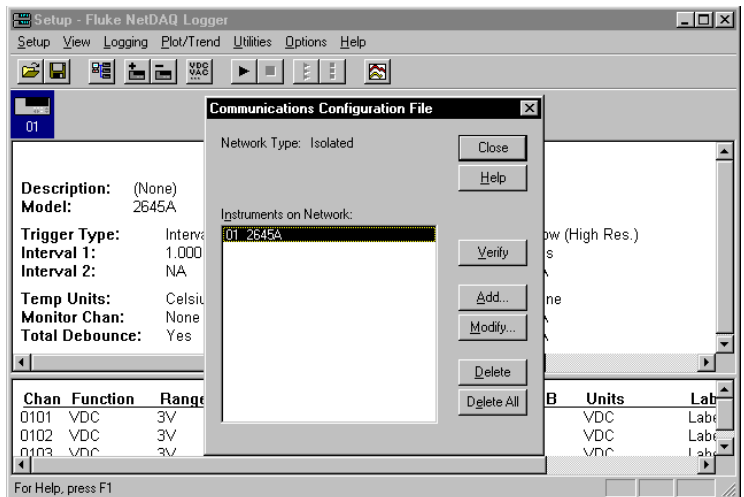

Figure 6.
2. Select Communication Configuration from the Setup menu. The communications configuration file dialog as shown in Figure 6 will appear.